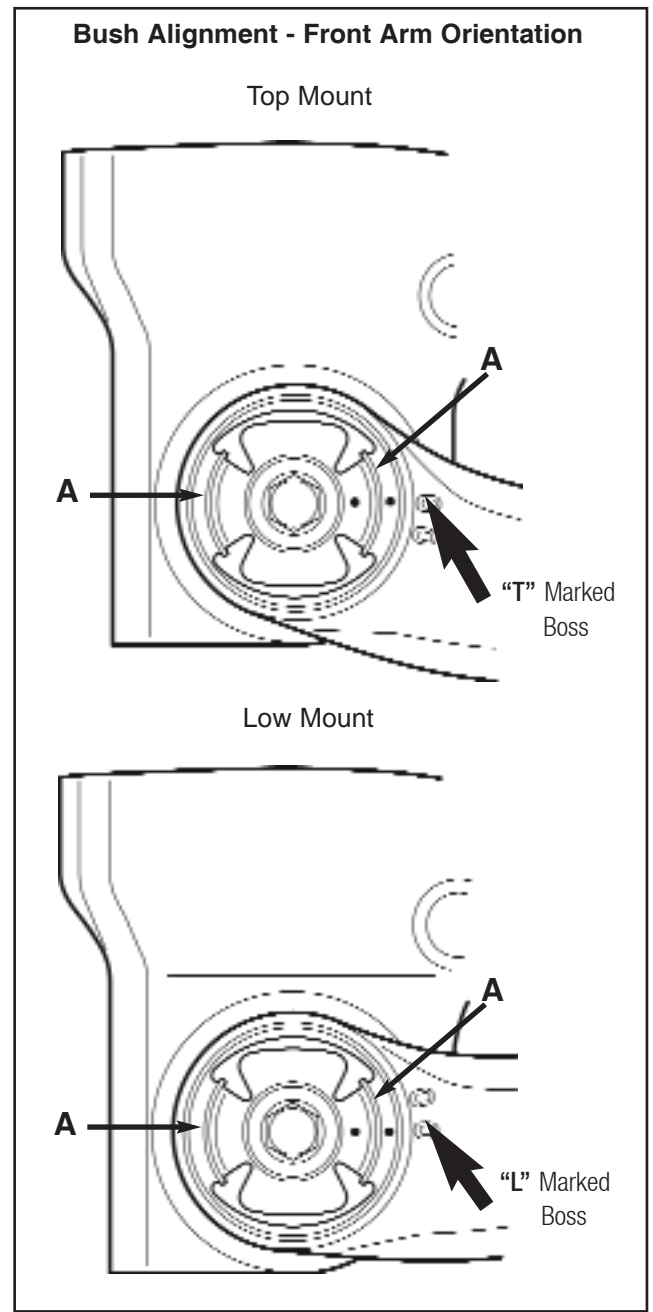

Fig 4.18
**CAUTION:** Ensure the pips on the replacement Pivot Bush are in line with the correct alignment boss, either T (TOP mount) or L (LOW mount) and the steel plates 'A' are aligned front and rear, not top and bottom, as shown in Fig 4.18.
**NOTE:** Check the position and orientation of the original bush before removing (Fig 4.18). This will provide a guideline when fitting a new bush.